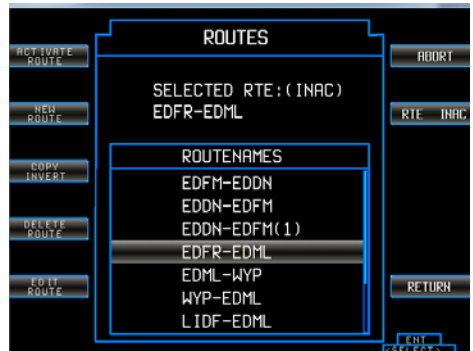

Figure 51: "RTE", "RTE ACT", "RTE INAC"
- If a route is set to inactive, its state is displayed "INAC" in brackets in the text box above the route list (Figure 51).
"LOAD ROUTE"	<p>Allows to set a selected route active (Figure 51).</p> <ul style="list-style-type: none"> <li>• Use the rotary-encoder to select a route from the list.</li> <li>• Set it to active.</li> <li>• Select the function "BACK" to continue.</li> </ul>